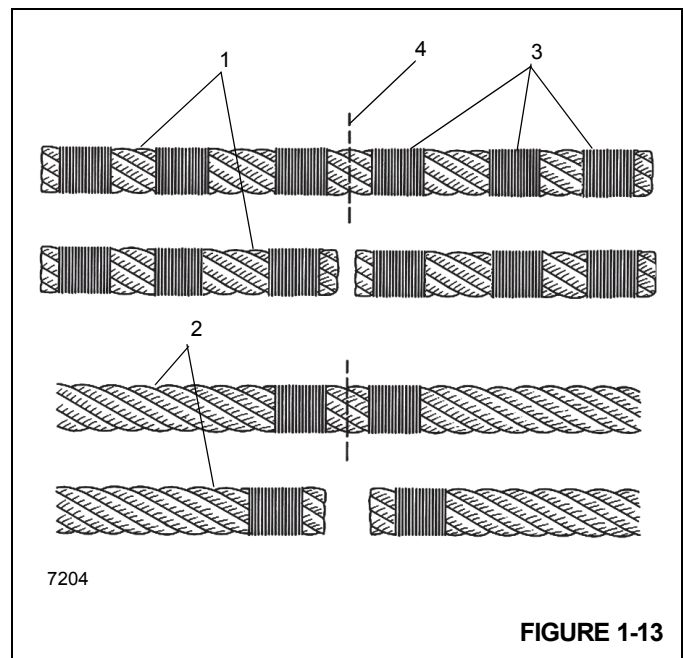

FIGURE 1-13
NOTE: Non-preformed wire rope (1) Figure 1-13 should have three seizings (3) located on each side of the cut (4) as compared to preformed wire rope (2).